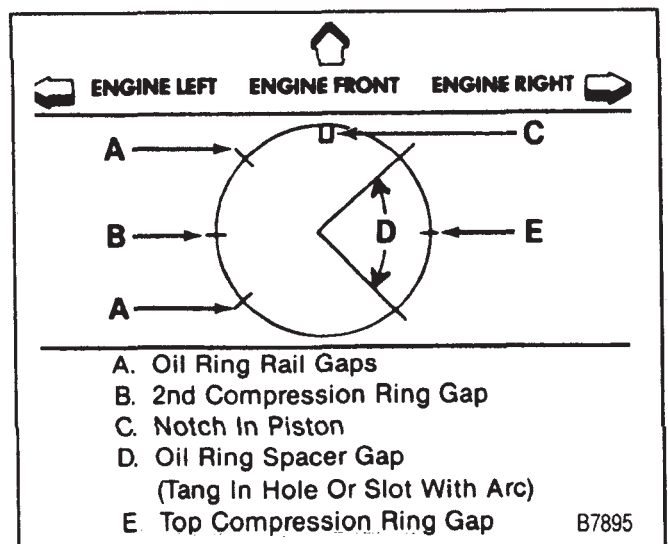

Figure 29—Piston Ring End Gap Location
- B. Make sure the gap in the oil ring rails is in the up position toward the center of the engine and the gaps of the compression rings are positioned as shown in figure 29.